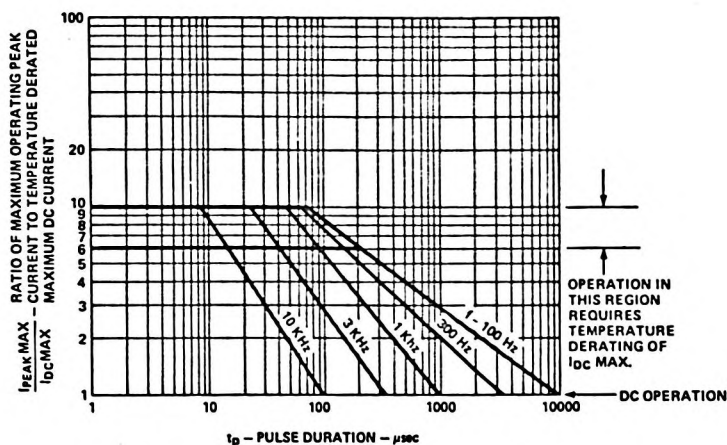

Figure 1. Maximum Tolerable Peak Current vs. Pulse Duration.
6. See Figure 1 to establish pulsed operating conditions.